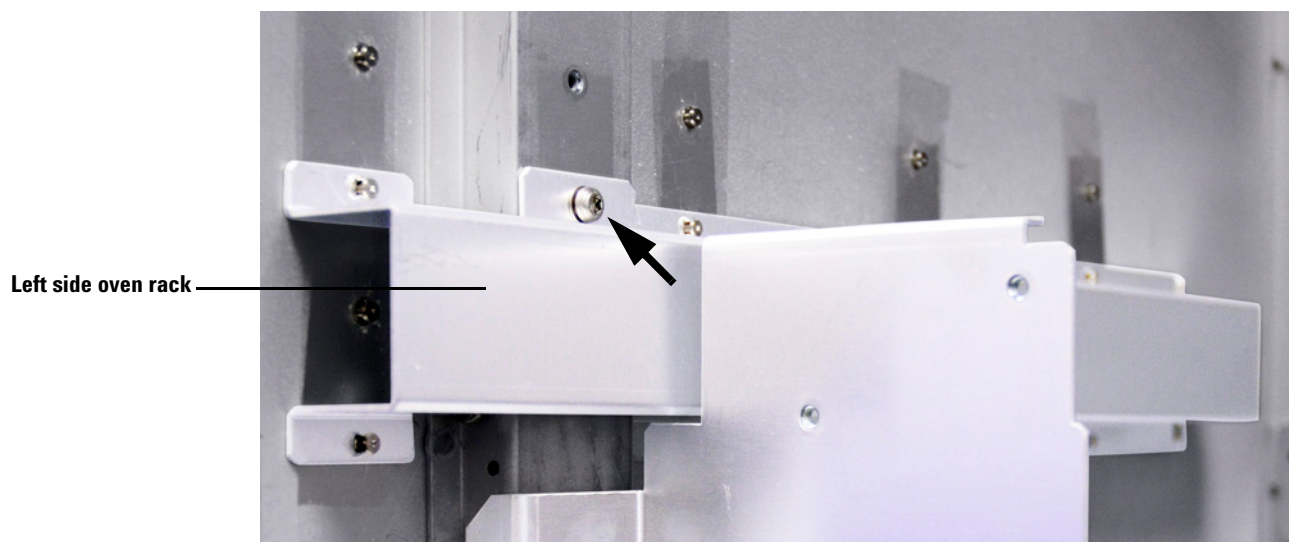
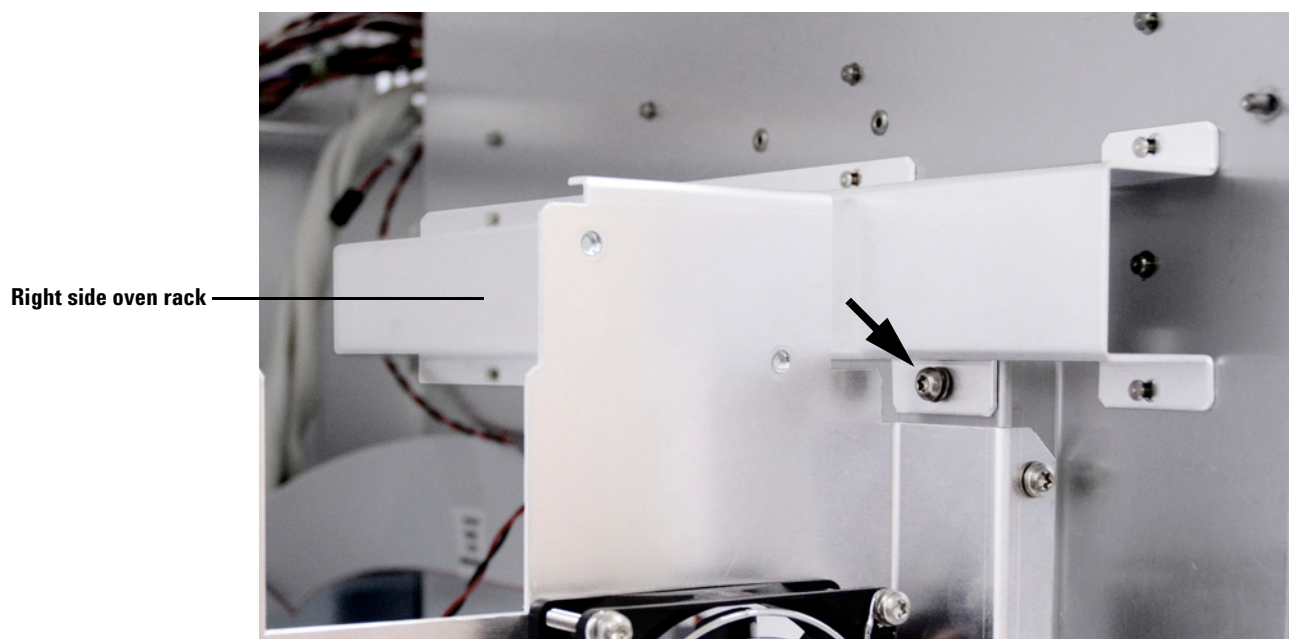

Figure 13 Removing the T-20 Torx screw on the left side oven rack
Figure 14 Removing the T-20 Torx screw on the right side oven rack
- 1 Remove the T-20 Torx screw on the side oven racks (Figure 13 and Figure 14).